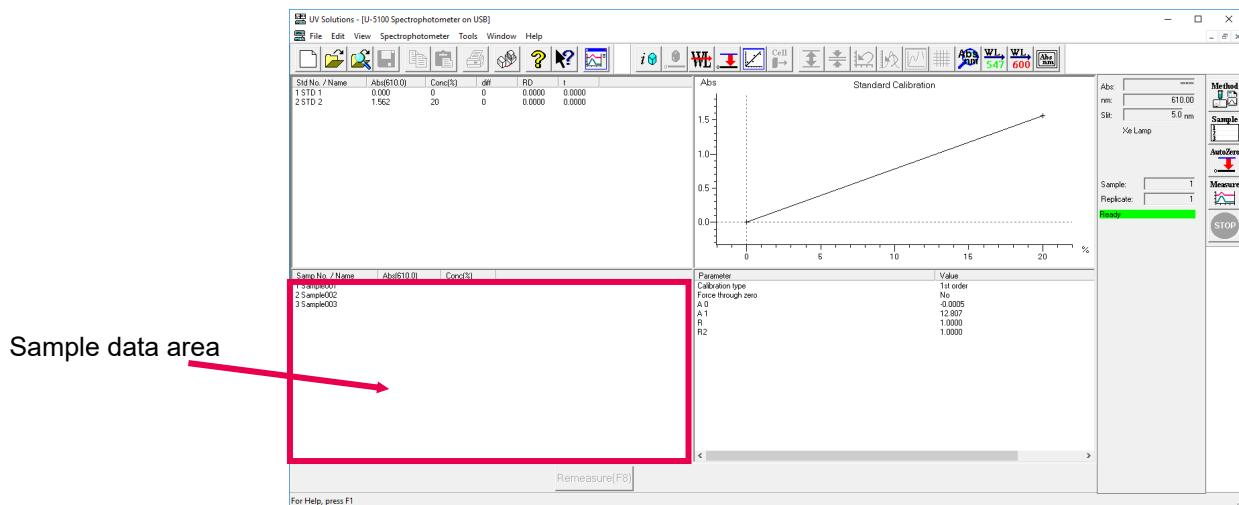

**Fig. 4-82**
- (3) A window as shown in Fig. 4-82 is now displayed. Select the file of the calibration curve to be used. In this case, when the data in the selected file has been measured by use of a sample table, samples are to be measured using a sample table. And when the data has been measured without using a sample table, samples are to be measured without using a sample table. With the U-5100, measurement will be carried out under the same 6 Cell Mode and 6 cell control mode as those in the measurement for the selected file data.